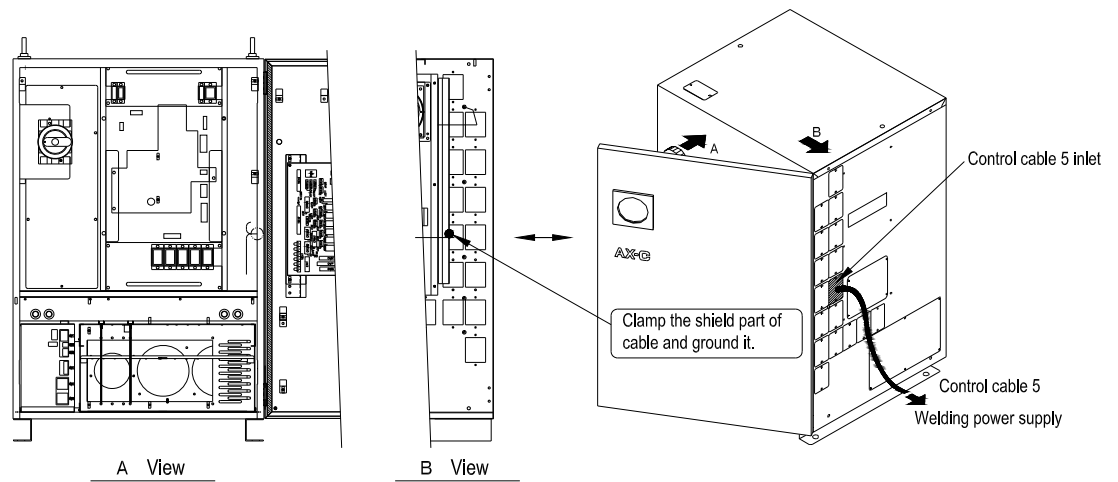

Figure 2.1.4 Connection of control cable 5 (Pull cable through)
- 2 Pull the control cable 5 connector through the control cable 5 inlet on the right side of the robot controller as shown in Figure 2.1.4.